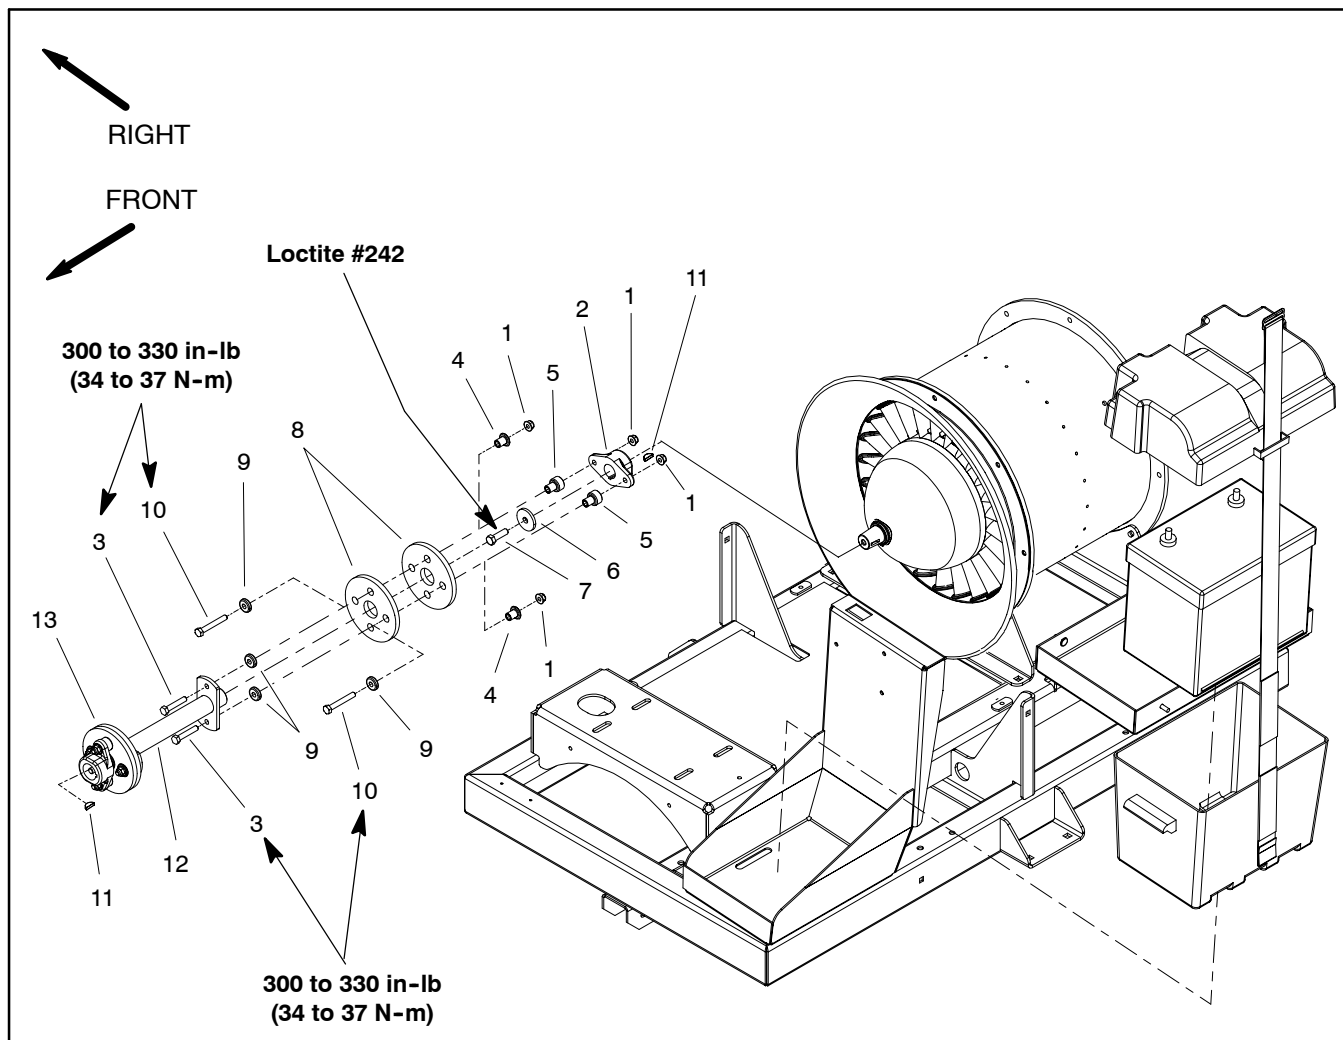
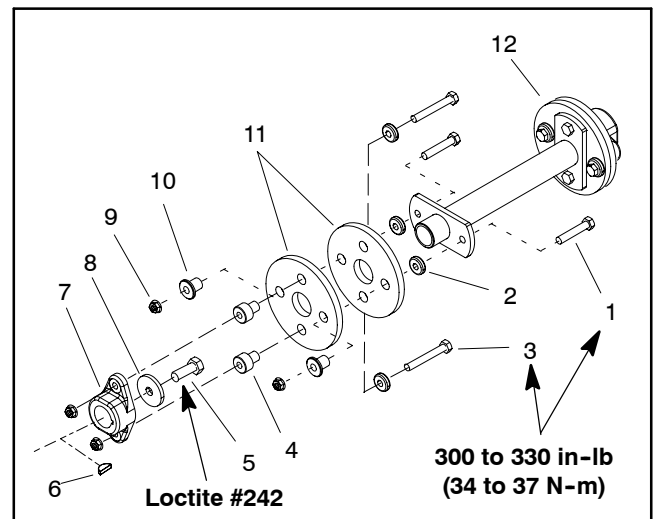

Figure 2
Figure 3
NOTE: The coupling assembly between the blower shaft and drive shaft (item 12) is illustrated in Figure 2. The coupling assembly (item 13) used between the drive shaft (item 12) and engine shaft is composed of the same components (Fig. 3).
Removal (Fig. 2)
6. Disassemble drive couplings from drive shaft using Figures 2 and 3 as guides. Note differences in coupling spacer flange thickness for assembly purposes.
Installation (Fig. 2)
3. Secure drive couplings to drive shaft with cap screws and lock nuts using Figures 2 and 3 as guides.